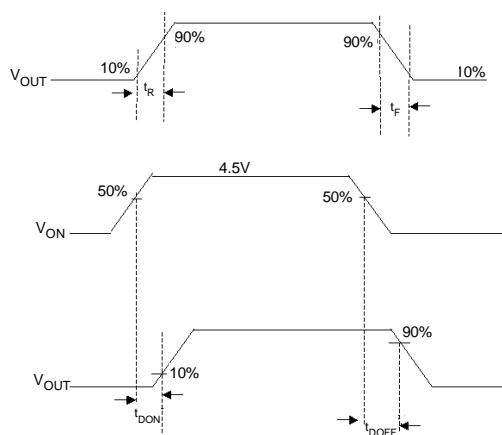

Figure 27. Timing Diagram
4.  $t_{DON}/t_{DOFF}/t_R/t_F$  are defined in Figure 27.